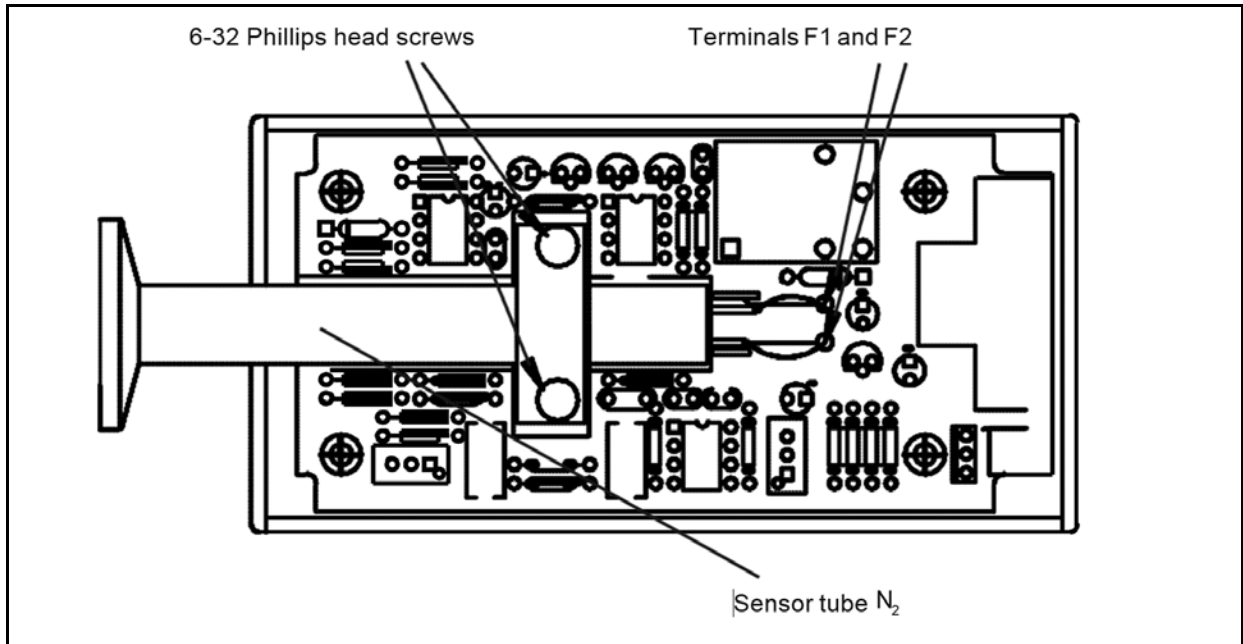

Figure 6-2: Checking Resistance
3. Check the resistance from terminal F1 to F2, the wires leading to the Sensor tube (Figure 6-2). The resistance reading should be approximately 31 W. If the reading is approximately 340 W, the tube filament is broken or burned out.
2. With a low wattage soldering iron, de-solder the two wires that connect the tube to terminals F1 and F2 (Figure 6-2).